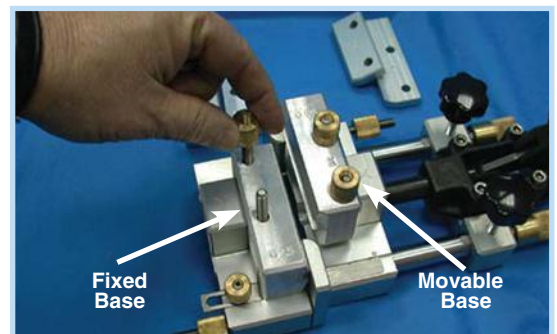

Fig. 5
3. Position the X die on the Fixed Base (Fig 5).
4. Position the Y die on the Movable base (Fig 5).